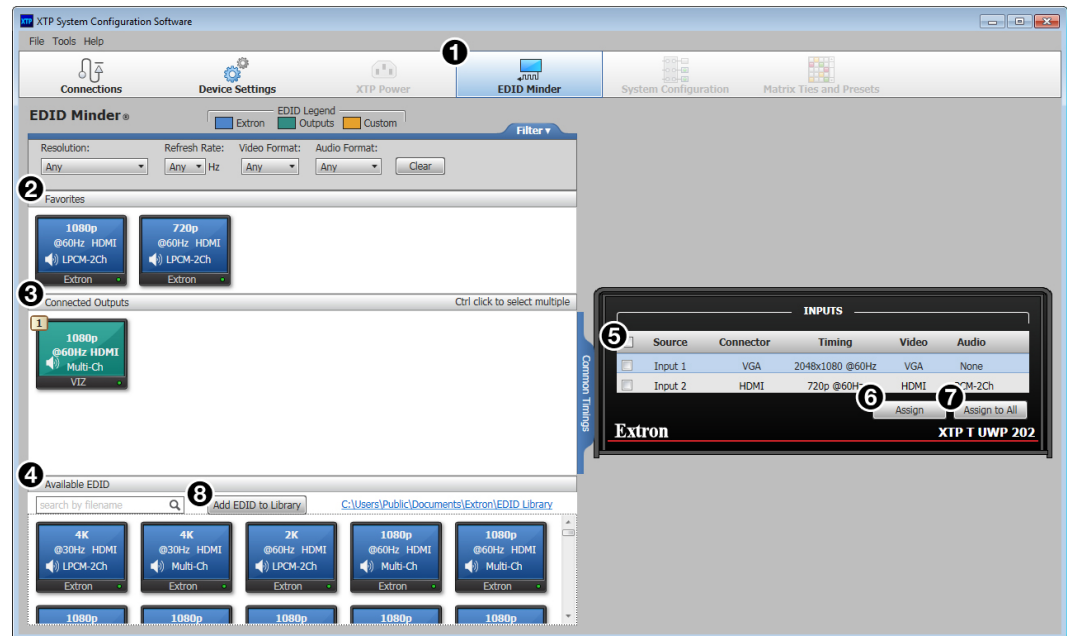

Figure 35. EDID Minder Screen
Use the EDID Minder screen to assign unique EDID to the input or match current output EDID to the input. Click the **EDID Minder** button (see figure 35, ①) on the Global Navigation bar. The EDID Minder screen opens.
1. In the Available EDID panel, click the **Add EDID to Library** button (see figure 35, ⑧ on the previous page). The Browse window opens.
2. Navigate to and select the desired EDID file and click **Open**. The EDID file appears in the Available EDID panel (see figure 35, ④ on the previous page).
1. Right-click on the desired EDID icon in the **Connected Outputs** panel (see figure 35, ③ on the previous page).
To add commonly used EDID settings to the Favorites panel (see figure 35, ② on the previous page) for quick access, perform one of the following methods:
- Click and drag the desired EDID icon from the **Connected Outputs** (see figure 35, ③ on the previous page) or the **Available EDID** panel (see figure 35, ④ on the previous page) to the **Favorites** panel. The EDID setting is copied to the **Favorites** panel.